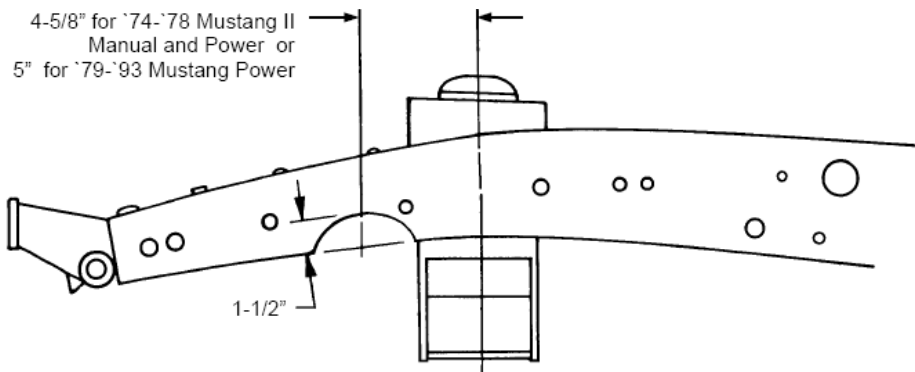

Figure 5- C-Notch
8. The C-notch for the rack is the last part to be done. Measure forward from the centerline 4-5/8" for '74-'78 Mustang II power and manual or 5" for '79-'93 Mustang power rack, and up 1-1/2" and make a mark. Now draw a 2-1/8" radius, using your mark as the top of the radius. See **Figure 5**. Trim out the material marked, leaving about 1/8" to work with, and then try the rack and the C-notch filler piece. Finish grind the notch for fit and location, and tack the filler pieces in place. Remove the rack.